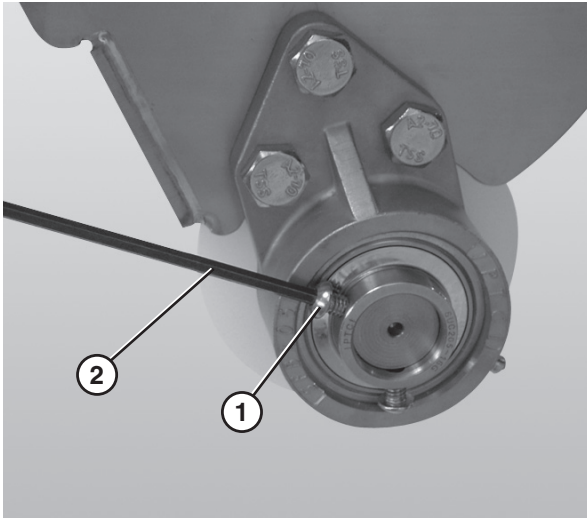

Figure 58
- Loosen the 3 hole flange (**Figure 58, item 1**) with bearing fasteners using a hex wrench (**Figure 58, item 2**).